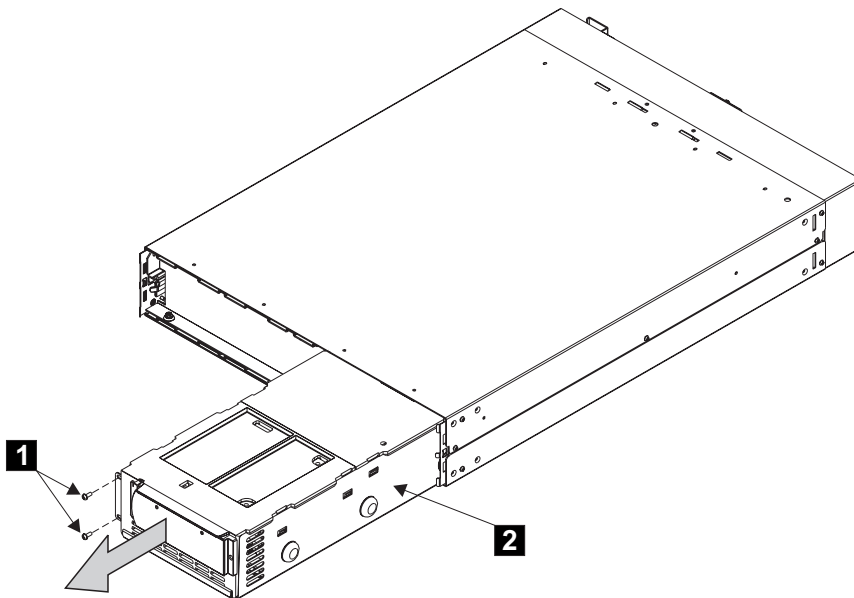

Figure 210. Removing the 2145 UPS electronics assembly
- a. Remove the two screws **1** (see Figure 210).